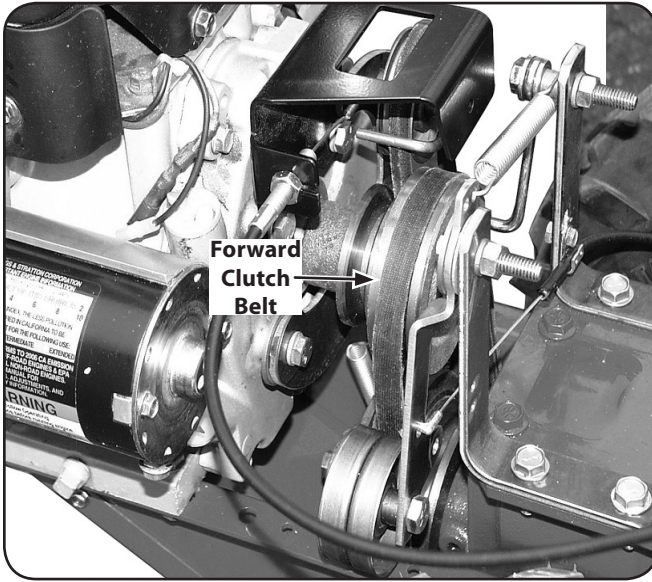

Figure 6-4
Tension on a new forward clutch belt should be checked after the first two (2) hours of operation and after every ten (10) hours of operation after that. See Figure 6-4.